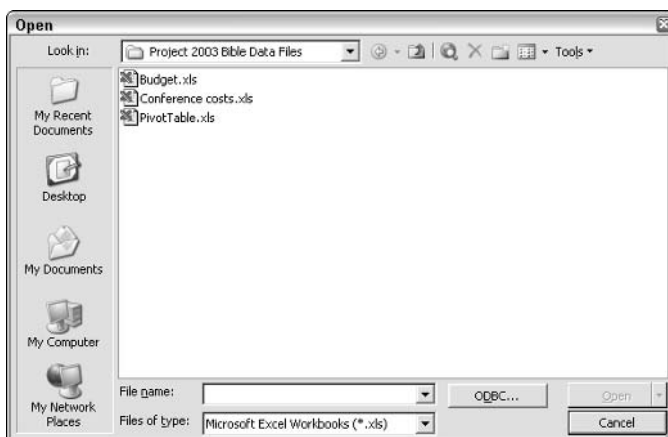

Figure 26-23: Set the type of file that you want to import to Microsoft Excel Workbooks.
2. Open the Files of type list box, and select Microsoft Excel Workbooks, as shown in Figure 26-23.